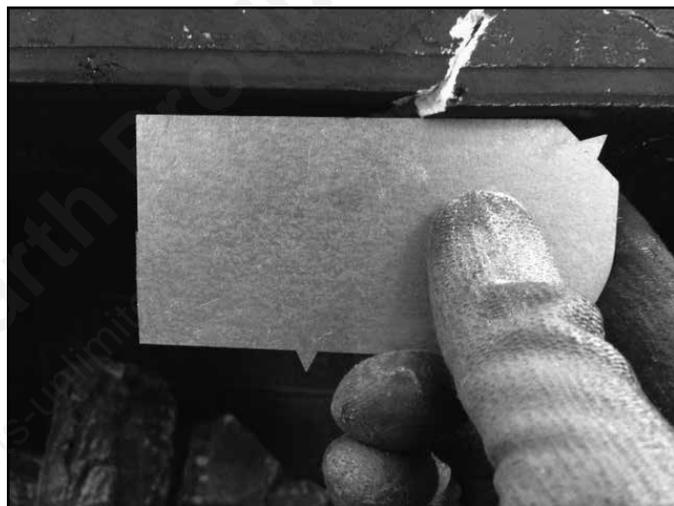

Figure 3.2. Surface plane of firebox is compromised and should be replaced.
- Cracks compromising the surface plane of the firebox. See Figure 3.2.